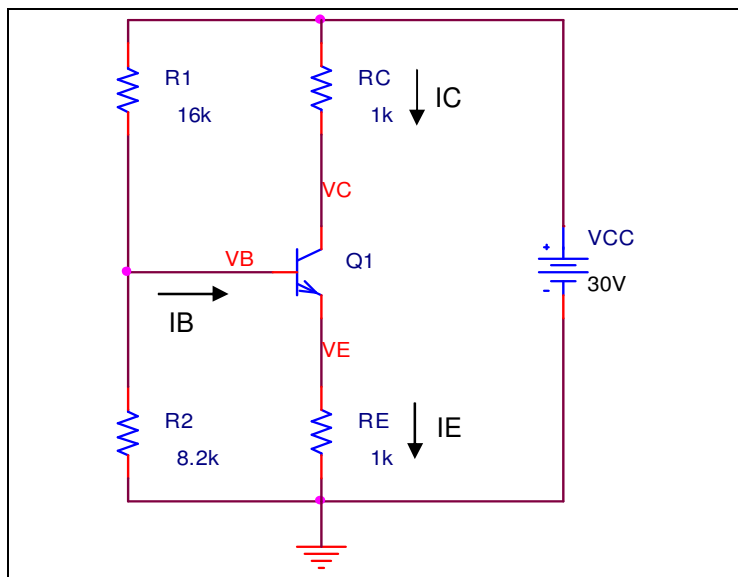

Figure P.1- Beta Stabilizing Network
2. For the circuit in figure P.1, hand calculate the values for I_B , I_E , I_C , V_B , V_E , V_C , V_{BE} , V_{CE} , & V_{CB} ; assume $\beta=180$; show all work. Read the tutorial "Bias Point Analysis in SPICE" for help.
3. Build the circuit in figure P.1 in SPICE, use part Q2N3904 for Q1. Perform a Bias Point Analysis for the circuit in SPICE. Show the DC voltages and DC currents at each node; submit a separate screenshot for each.
- Construct circuit in figure P.1 using transistor: 2N3904